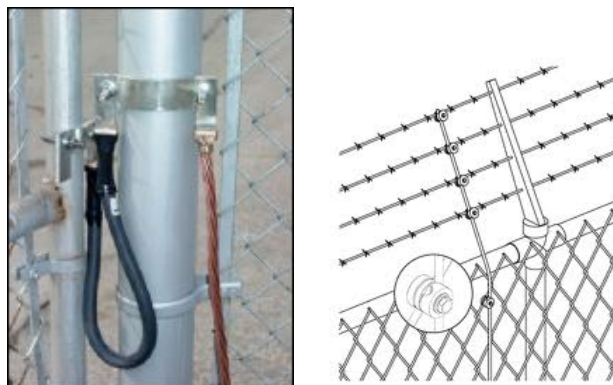

Figure 17: Fence grounding examples
- The fence itself should be grounded, see Figure 17. The resistance to the ground should be less than 20 Ohm. Consult the manufacturer of the fence on how to ground the fence. You should also consider the regulations in your country regarding the grounding protection of electrical equipment and buildings.